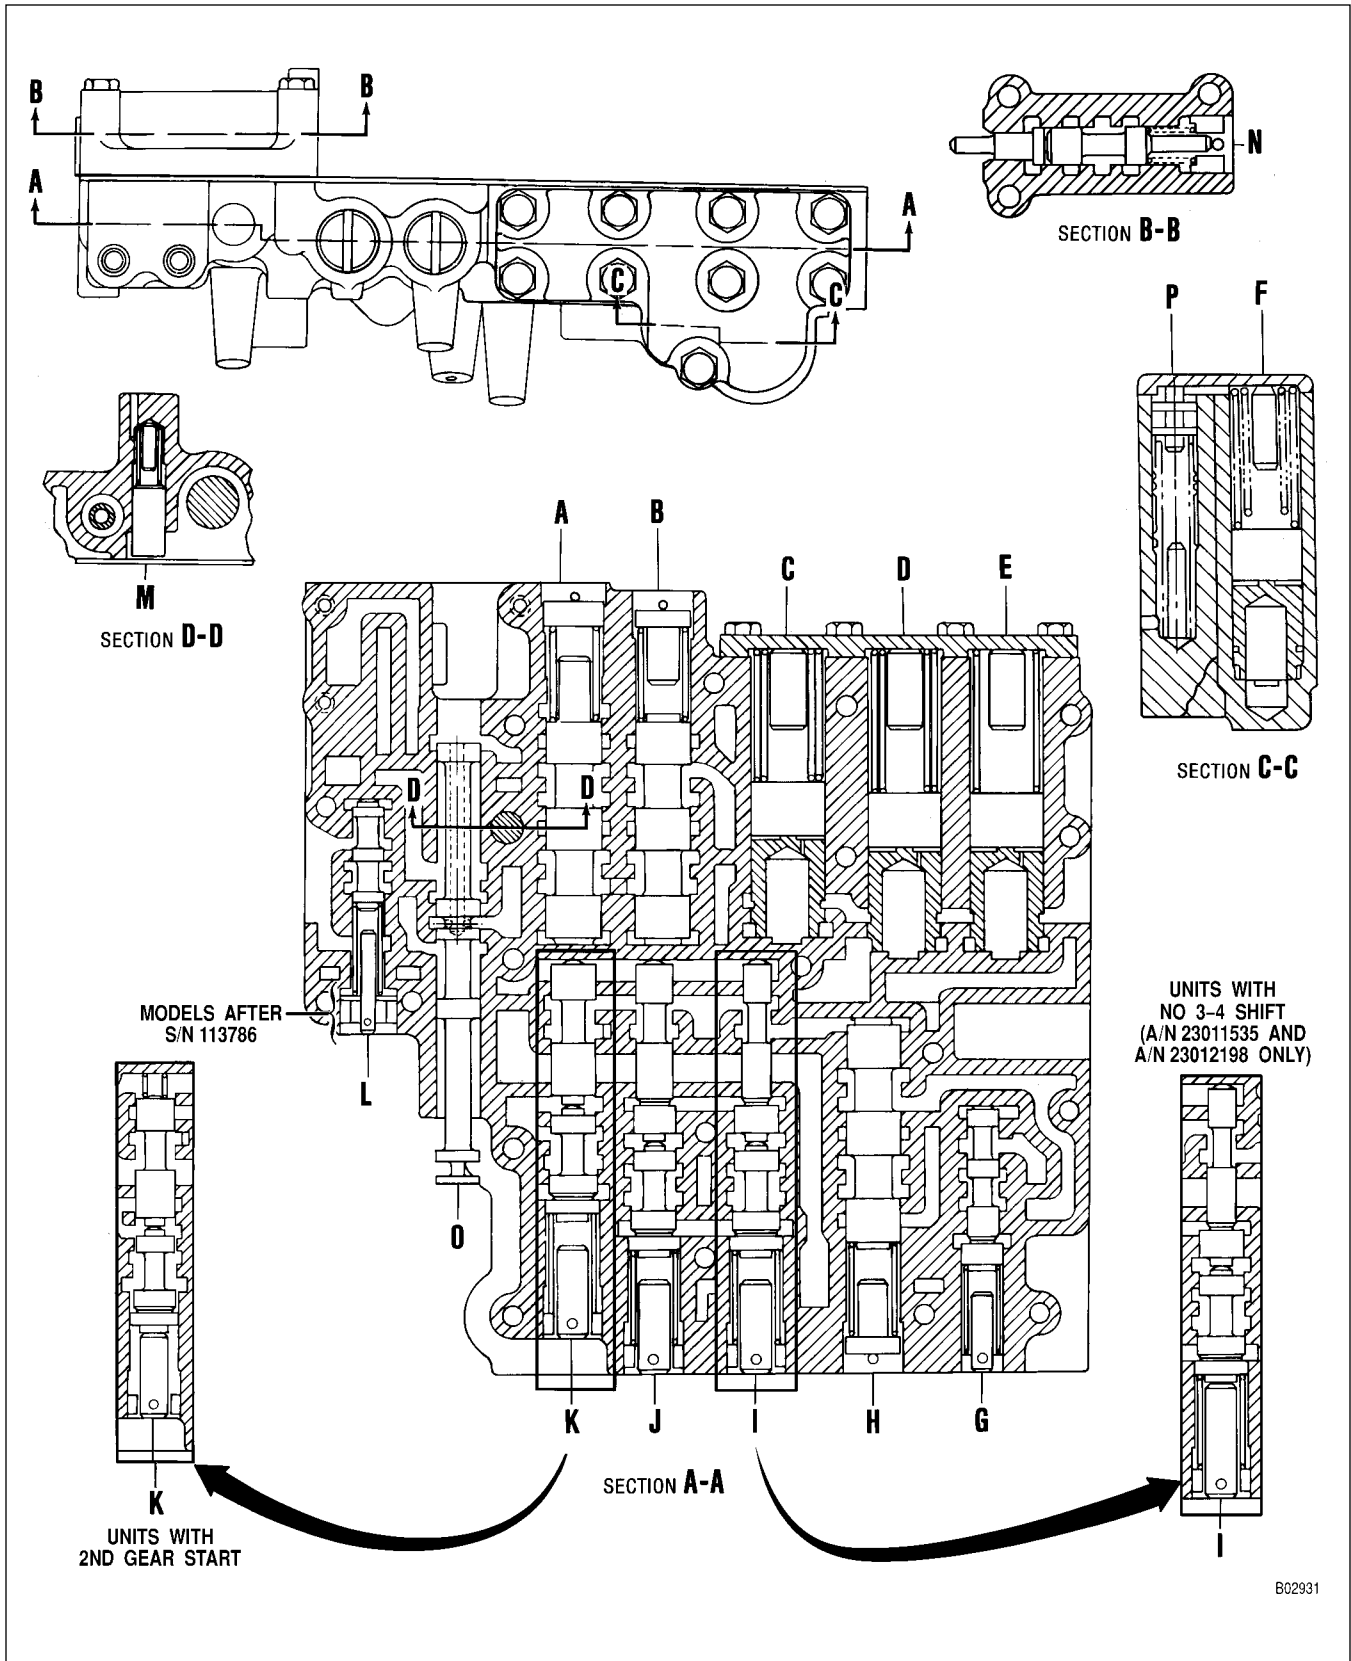

Figure 6-20. Control Valve Body Assembly — With Components Installed
(14) Install hold regulator valve 46 into Bore L (Figure 6-20). Into the same bore, install spring 47 (Foldout 11) and valve stop 48. Prior to transmission S/N 113786, install valve plug 49. Beginning with transmission S/N 113786, install washer 50 and adjusting ring 51. Compress adjusting ring 51 and install retainer pin 52 through the valve body, across the recorded step of adjusting ring 51, and through the hole in stop 48.
(15) Install valve stop 43 into Bore M (Figure 6-20). Into the same bore, install spring 44 (Foldout 11) and priority valve 45.
(16) Into Bore N (Figure 6-20), install either modulator valve 8 (Foldout 11), spring 7, washer 6, stop 5, and adjusting ring 4; or, actuating rod 80, modulator valve 81, spring 7, and adjusting ring 82. Compress adjusting ring 4 or 82 and install retainer pin 9 through the valve body, across the recorded step of adjusting ring 4 or 82, and through the hold in stop 5 or at the outside end of valve 81.
(17) Install separator plate 2 onto valve body 11. Install valve body 10 onto separator plate 2.